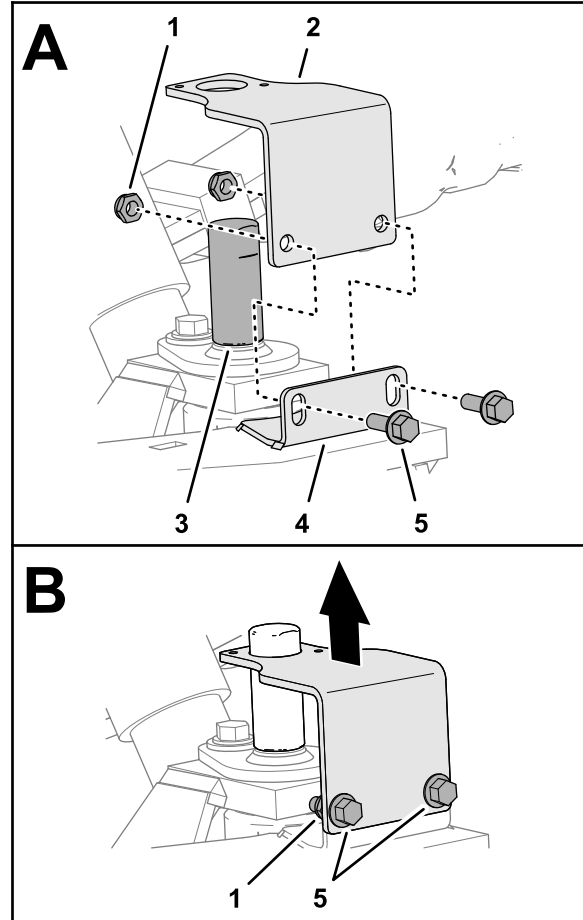

Figure 11
3. Align the sensor bracket over the alignment tool and the slots in the flange of the spindle (Figure 11).
4. Loosely assemble the bracket to the flange (Figure 11) with 2 flange-head capscrews (1/4 x 3/4 inch) and 2 locknuts (1/4 inch).
5. Position the bracket to the bottom of the slots in the flange of the spindle, and tighten the flange-head capscrews and locknuts (Figure 11).